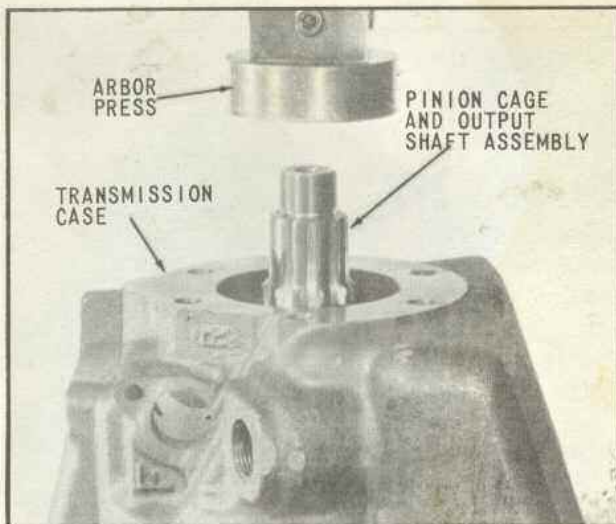

Fig. 27 Case Assembled over Pinion Cage and Output Shaft Assembly and Assembly Tool
7. Place the transmission case over the pinion cage and output shaft assembly so transmission case rests squarely on arbor press table which is supporting assembly tool (Fig. 27).